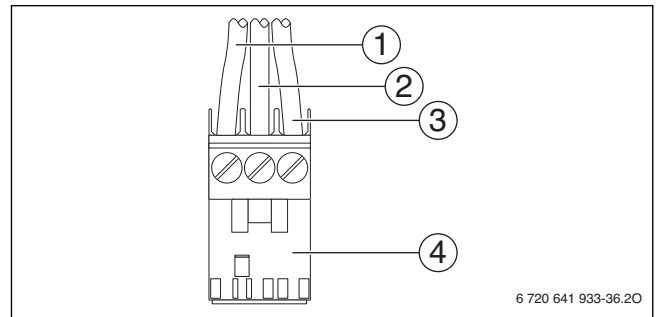

Fig. 56 Attach plug (mains power supply)
- ▶ Connect cable to **the white plug** according to Fig. 56.
- ▶ Connect the lead labeled BOILER GROUND (green) to pin 2 (center, → Fig. 56 [2]) of the white plug in the boiler junction box.